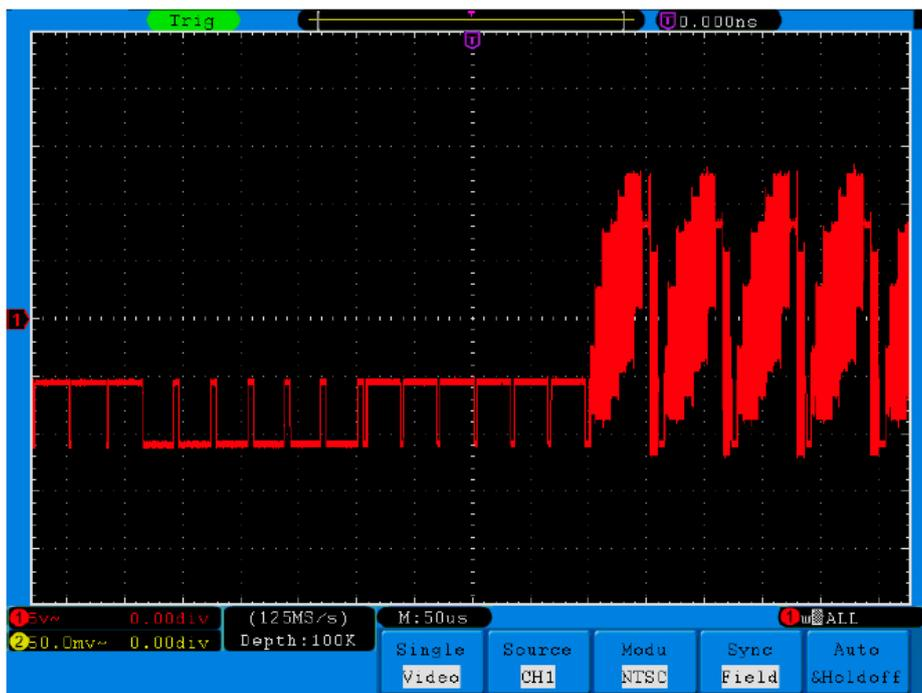

Fig.6-7 Waveform Captured from Video Field Trigger
- (1) Press the **Trigger Menu** button to display the trigger menu.
- (2) Press the **H1** button to display the trigger type menu.
- (3) Press the **F1** button to choose **Single** for Type.
- (4) Turn the **M** knob to choose **Video** as the mode.
- (5) Press the **H2** button to display the Source menu.
- (6) Press the **F1** button to choose **CH1** for Source.
- (7) Press the **H3** button to display the Modu menu.
- (8) Press the **F1** button to choose **NTSC** for the modulation.
- (9) Press the **H4** button to display the sync menu.
- (10) Press the **F2** button to choose **Field** for Sync.
- (11) Turn the **VOLTS/DIV**, **VERTICAL POSITION** and **SEC/DIV** knobs to obtain a proper waveform display (see **Fig.6-7**).